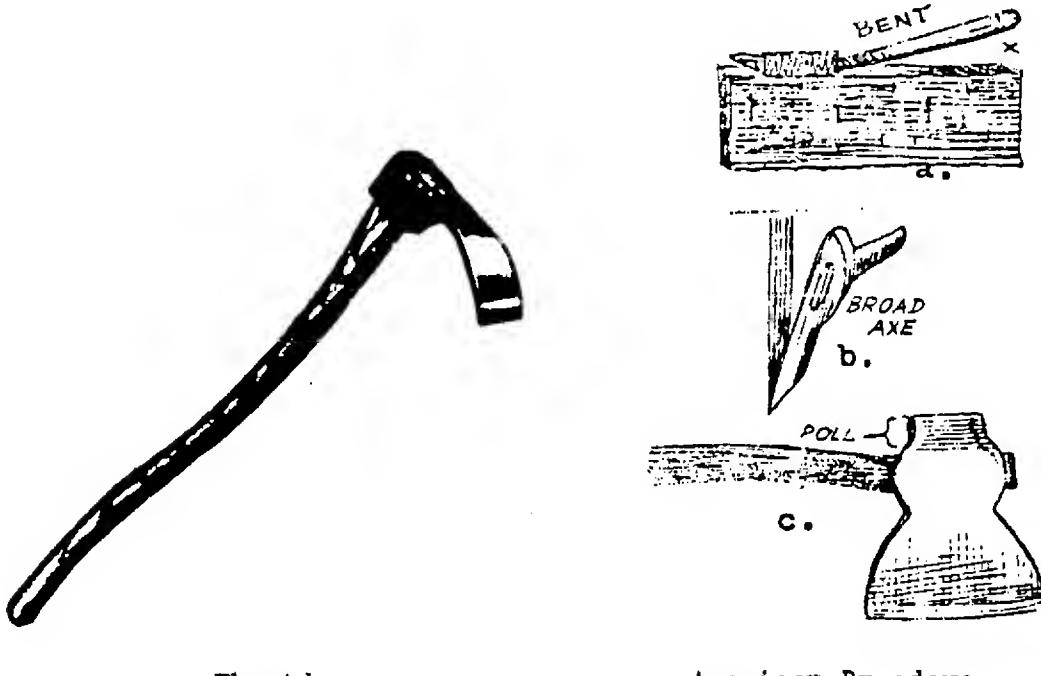

Figure 16 The Adz and Brodaxe
for squaring and hewing. It was excellent for hewing round logs into square beams. A man, skilled with a broadaxe, could transform a round log into a square beam in just a short time. As a rule, the adz would make surfaces smoother but usually took a little more time. The broadaxe is seen in Figure 16 along with the adz.
2. The Adz (Figure 16) is shaped like a hoe but has the cutting edge of an axe. This cutting tool differs from an axe, having an arching blade set at right angles to the handles, much like a grub hoe. The adz consists of a hardened steel head with a curved blade at one end $3\frac{1}{2}$ to $4\frac{1}{2}$ inches wide and usually a curved wooden handle to give balance and the proper angle for cutting. It is used for debarking, cutting, shaping and smoothing lumber or logs when a large amount of wood is to be removed. To use the adz, the timber to be worked should be straddled. The adz is then swung downward and towards the body, using short chopping strokes. The adz, like the drawknife, is becoming somewhat obsolete, but for the bushman who loves to do rustic building in the woods without all of the modern conveniences, the adz is a welcomed addition to his pioneering tools.